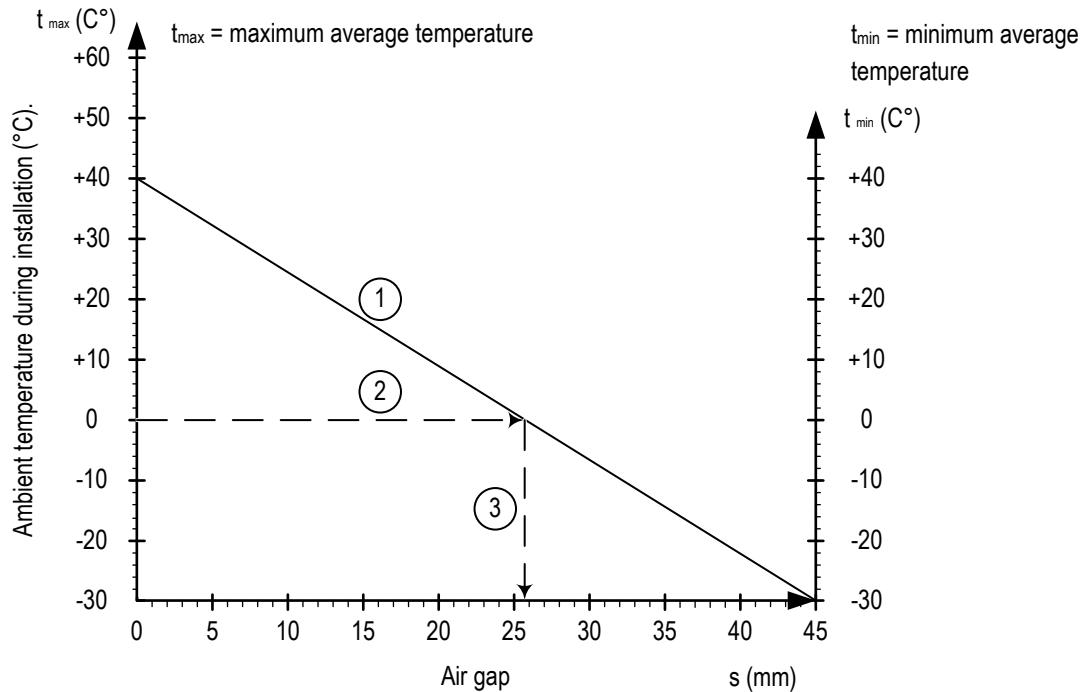

Fig. 19: Determining the air gap for the expansion element
- Fix the expansion element (1) to the support structure using two fastening screws (2).
- Read the air gap "s" from the table in Fig. 19 and adjust it.